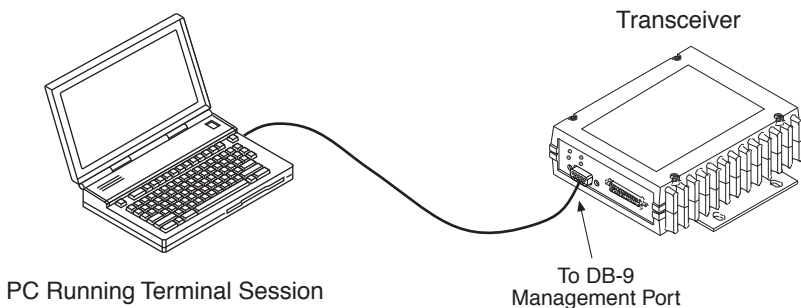

Figure 6. PC Configuration Setup
1. Connect a PC to the transceiver's P2 connector as shown in **Figure 6**. If desired, a connecting cable may be assembled using the information shown on **Page 26**.